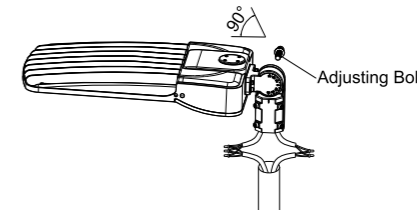

Figure 13
1. ADJUSTABLE FITTER MOUNTING (AM)
- Step 1: Loosen the four bolts on AM bracket, connect the wires correctly, and pull the wires into the poles. (Figure 13)
- Notice: Adjustable angle is 0-90° (Figure 13).